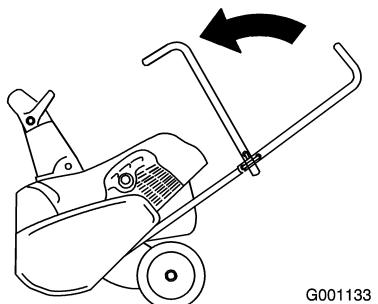

Figure 26
2. Fold the upper handle forward (Figure 26).